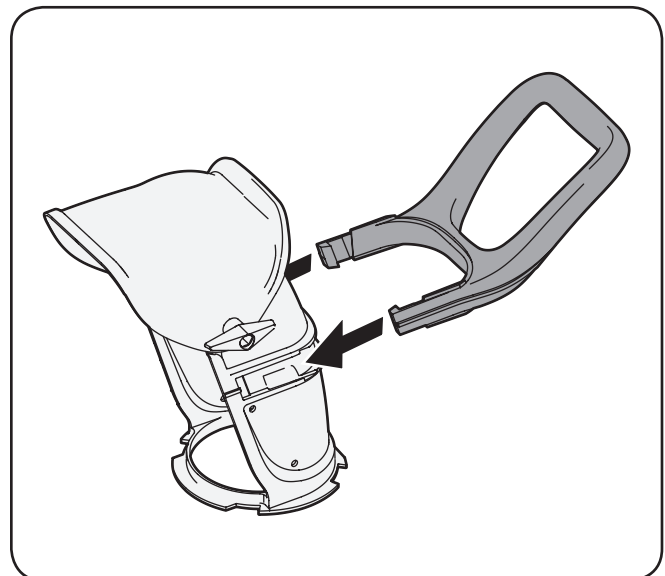

Figure 3-3
3. Clip the discharge chute handle onto the discharge chute, as shown in Figure 3-3.